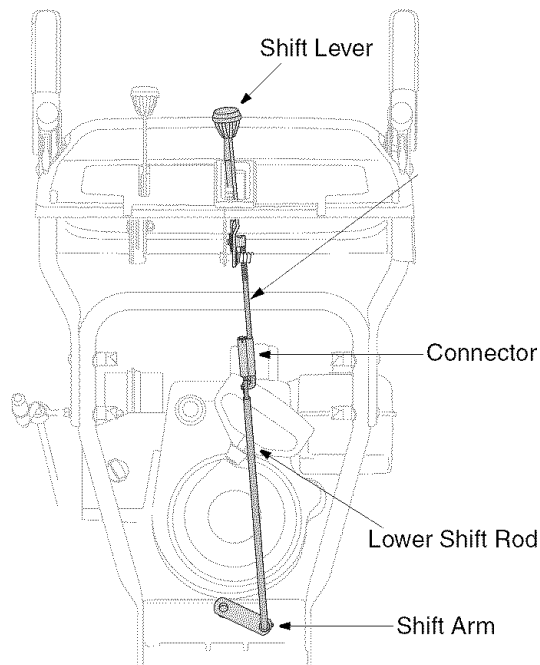

Figure 27
1. Remove the hairpin clip and slide the shift rod connector up, to separate the upper shift rod from the lower shift rod. See Figure 27.
2. Place the shift lever into the sixth (6) position.